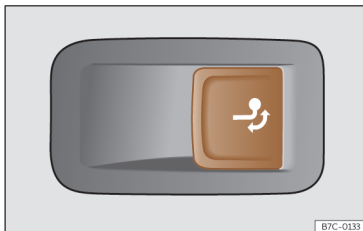

Fig. 176 Right side of the luggage compartment: button to unlock the tow hitch.
- Pull the >>> **Fig. 176** button briefly. The tow hook unlocks electrically and automatically turns outwards. The button's control lamp flashes.
- Pull the >>> **Fig. 176** button briefly. The tow hook unlocks electrically.
- Never press the button >>> **Fig. 176** when there is a trailer hooked to the vehicle or when a carrier system or other accessories are mounted on the tow hook.